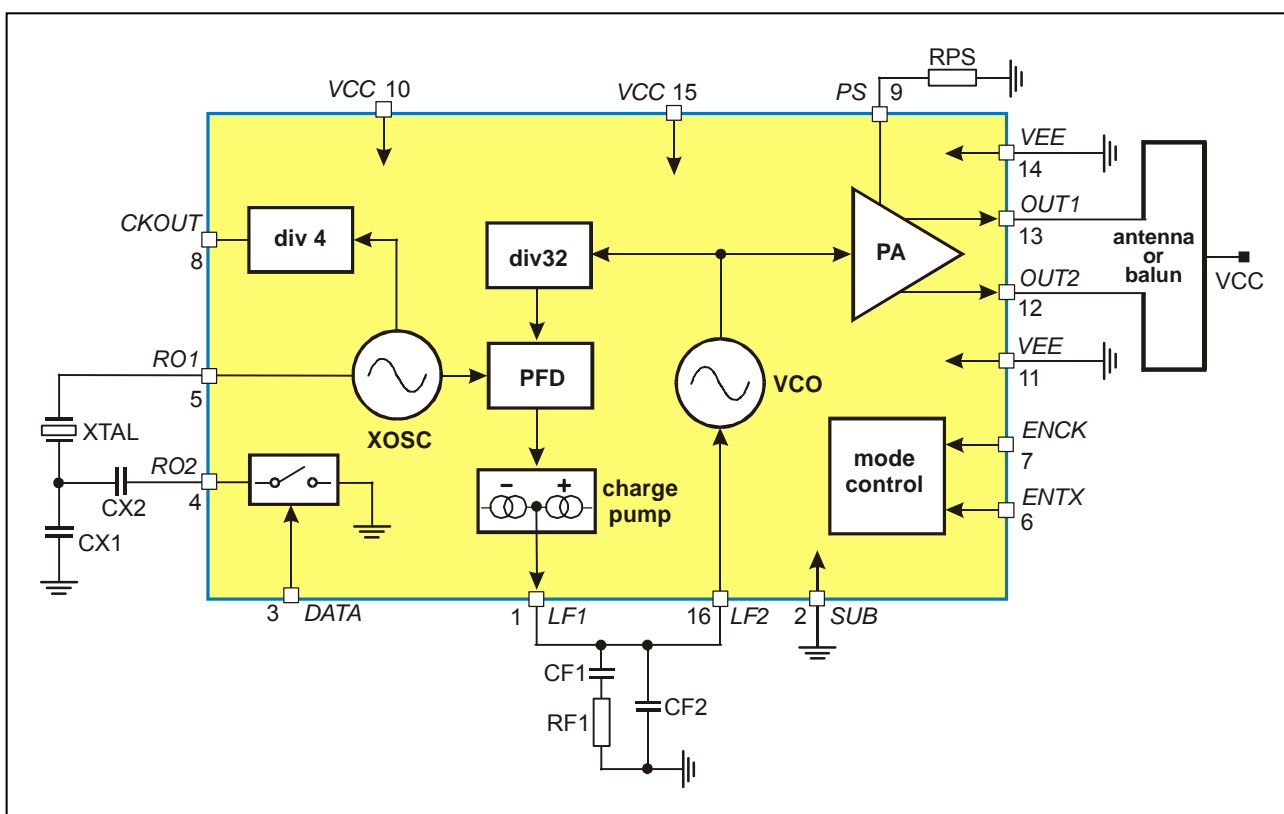

Fig. 1: Block diagram with external components
As depicted in Fig.1, the TH7107 transmitter consists of a fully integrated voltage-controlled oscillator (VCO), a divide-by-32 divider (div32), a phase-frequency detector (PFD) and a charge pump. An external loop filter at pin LF determines the dynamic behavior of the PLL and suppresses reference spurious signals. The VCO's output signal feeds the power amplifier (PA). RF signal power P_o can be adjusted in six steps from $P_o = -12$ dBm to +2 dBm either by changing the value of resistor RPS or by varying the voltage V_{PS} at pin PS. The open-collector differential output (OUT1, OUT2) can be used to either directly drive a loop antenna or to be converted to a single-ended impedance by means of a balanced-to-unbalanced (balun) transformer. For maximum available output power, the differential output should be matched to a load of about 1 k Ω . Bandgap biasing ensures stable operation of the IC at a power supply range of 2.2 V to 5.5 V.